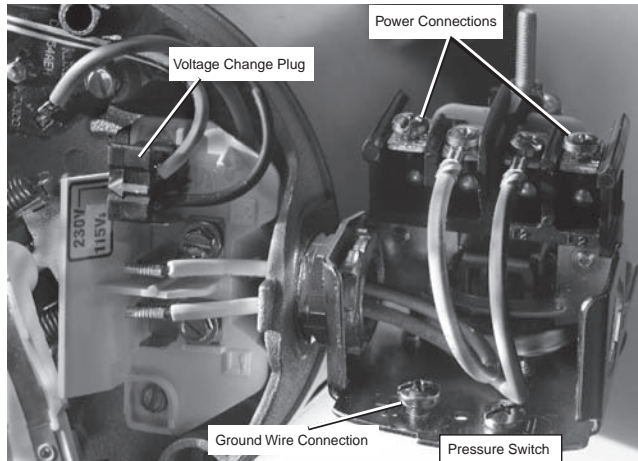

Figure 6: Voltage set to 230 V, Plug Type
4. Attach the incoming power leads to the two outer screws on the pressure switch as shown in Figure 6.
5. Attach the ground wire to one of the grounding connections, shown in Figure 6.
1. Connect the ground wire first as shown in Figure 6. The ground wire must be a solid copper wire at least as large as the power supply wires.
4. Connect the power supply wires to the pressure switch as shown in Figure 6.